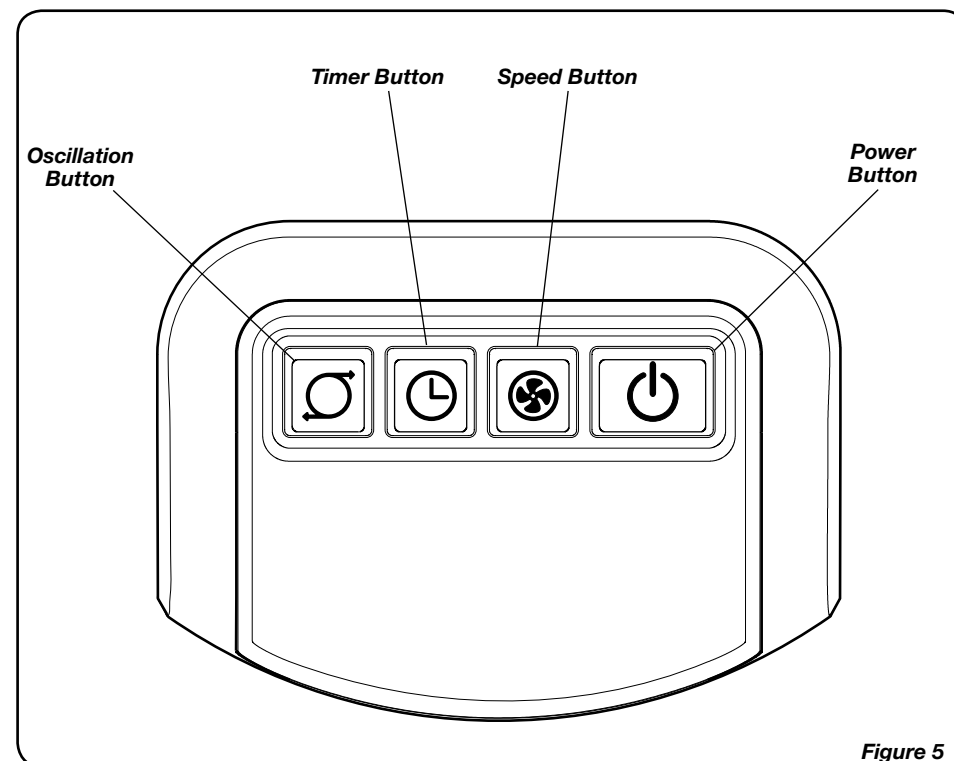
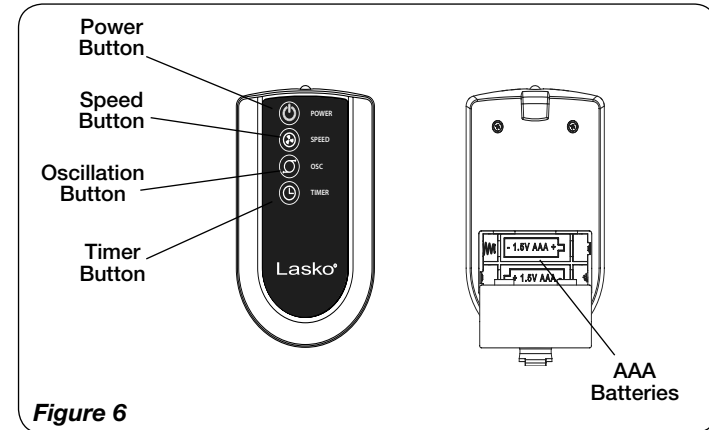

Figure 5
Figure 6
OPERATION (Figures 5 and 6)
This Fan may be operated by the Manual Controls located on top of the unit (as shown in **Figure 5**) or by the Remote Control (shown in **Figure 6**).
REMOTE CONTROL (Figure 6)
1. Install batteries (not supplied) as shown in *Figure 6*. The battery is size “AAA”.